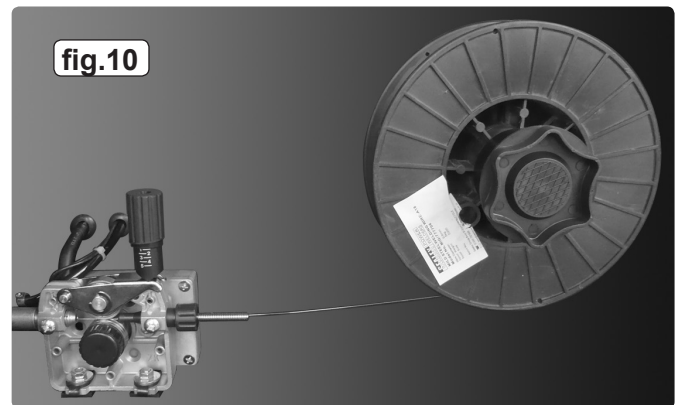

fig.10
3.8.1. Unscrew the locking knob from the end of the spool holder (see fig.7C) and remove the spacer. Slide the reel of wire onto the spool holder and ensure that the clutch pin at the back of the spool holder (E) engages into the guide hole in the wire reel moulding. This will prevent the wire reel from freewheeling on the spool holder. Slide the spacer onto the spool holder and retain it by screwing the knob into place as shown above in fig.9. Ensure that the wire is coming off the bottom of the reel in the direction of the wire drive unit as shown in fig.10.